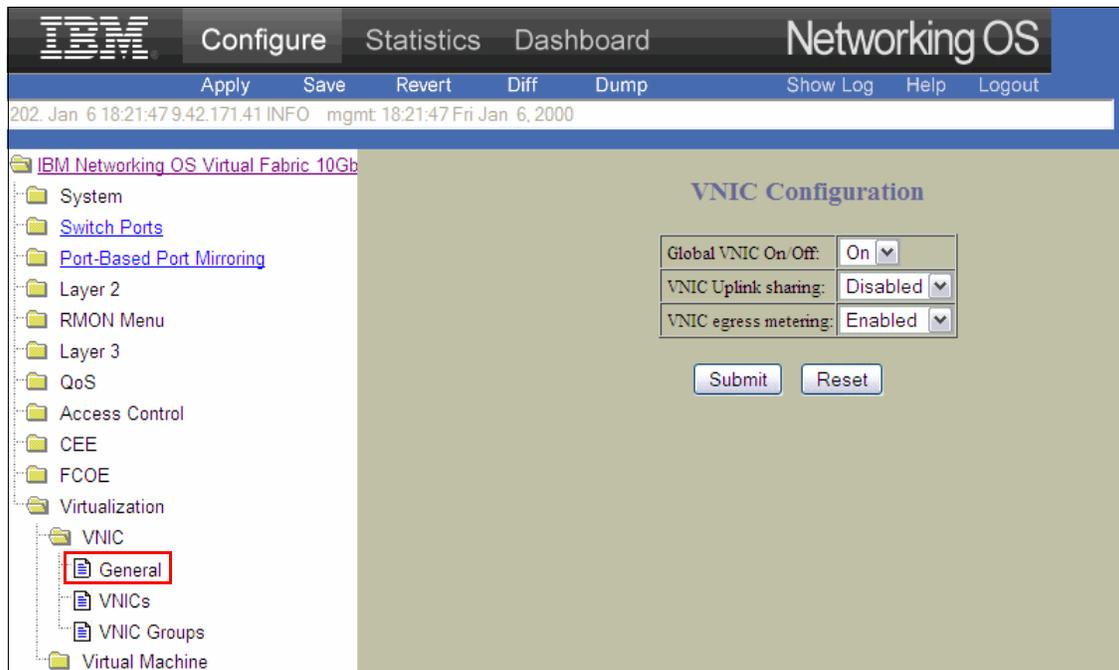

Figure 6-7 Enabling vNIC operations on the vNIC Configuration panel
1. On the **Configure** tab of the BBI, to enable vNIC operations, expand **Virtualization** → **VNIC**, and select **General** (Figure 6-7).